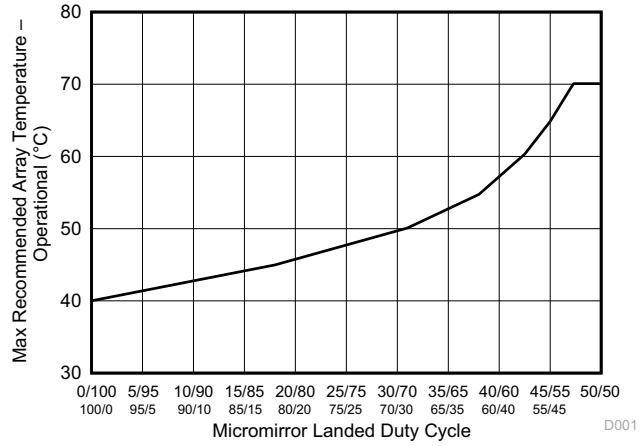

Figure 6-1. Maximum Recommended Array Temperature – Derating Curve
- (14) Per Figure 6-1, the maximum operational array temperature should be derated based on the micromirror landed duty cycle that the DMD experiences in the end application. Refer to Section 7.7 for a definition of micromirror landed duty cycle.
- (15) Long-term is defined as the usable life of the device
- (16) Short-term is the total cumulative time over the useful life of the device.